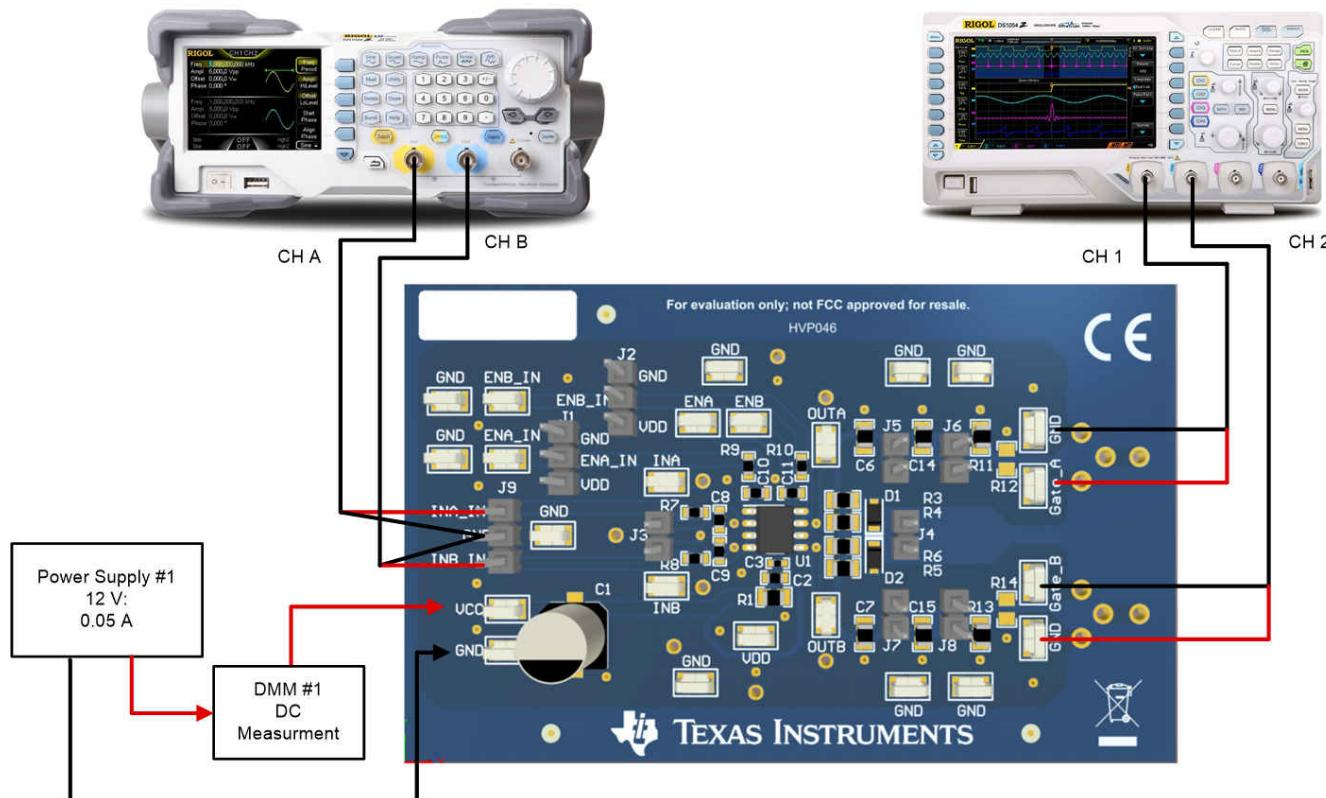

Figure 4-1. Bench Setup Diagram and Configuration
This procedure details how to configure the UCC27624EVM evaluation board. Within this test procedure, the following naming conventions are applied. See the *UCC27624EVM Bench Setup Diagram and Configuration, Figure 4-1*, for details.
Use the following connection procedure, refer to Figure 4-1.
- Function generator Ch-A channel applied on INA_IN+, see in Figure 4-1.
- Function generator Ch-B channel applied on INB_IN-, see in Figure 4-1.
- Power supply #1: positive node connected to input of DMM #1 and DMM #1 output connected to test point marked as VCC, negative node of Power Supply #1 connected directly to test point marked as GND; see in Figure 4-1.
- Connect oscilloscope Ch-1 probes to test points marked as Gate_A, smaller measurement loop is preferred; see in Figure 4-1.
- Connect oscilloscope Ch-2 probes to test points marked as Gate_B, smaller measurement loop is preferred; see in Figure 4-1.
1. Before beginning the power up test procedure, verify the connections with Figure 4-1.